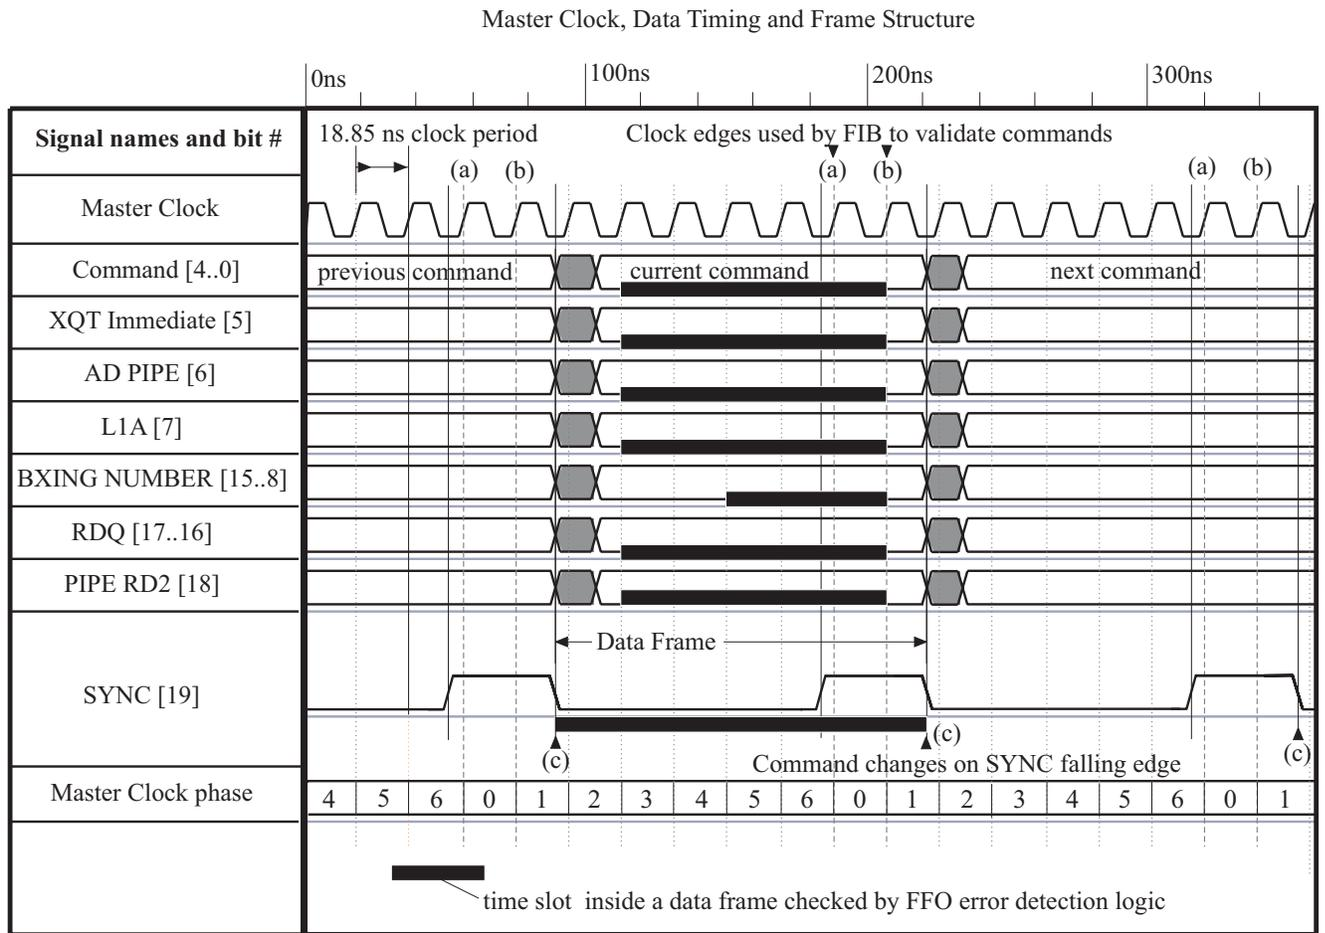

Figure 2.6, Master clock, data timing and frame structure.
- 1) Bit errors in any of the 19 data bits transmitted over the G-Link within an SRC frame. With the exception of the SYNC bit, all data bits should be repeated seven times within a single frame. The Fanout uses a pipeline comparator to detect transitions within a frame and report an error if the data received from the SRC does not comply with the timing protocol (Figure 2.6, Master clock, data timing and frame structure.), these types of errors are considered "protocol errors".
The data protocol error detection pipeline is designed around a seven-word frame (Figure 2.6). Data is entered in to the error detection pipeline with every 53MHz clock tick. The data should only change during master clock phase 2. The SYNC pulse (bit 19 of data[19..0]) is used as a reference to determine the master clock phase. The FIB latches the command two times as frame phases 0 and 1 start (time "a" and "b" in Figure 2.6), the two results are compared and the command is executed only if they matched. The Fanout not only samples the data at the time the FIB (beginning of frame phases 0 and 1)